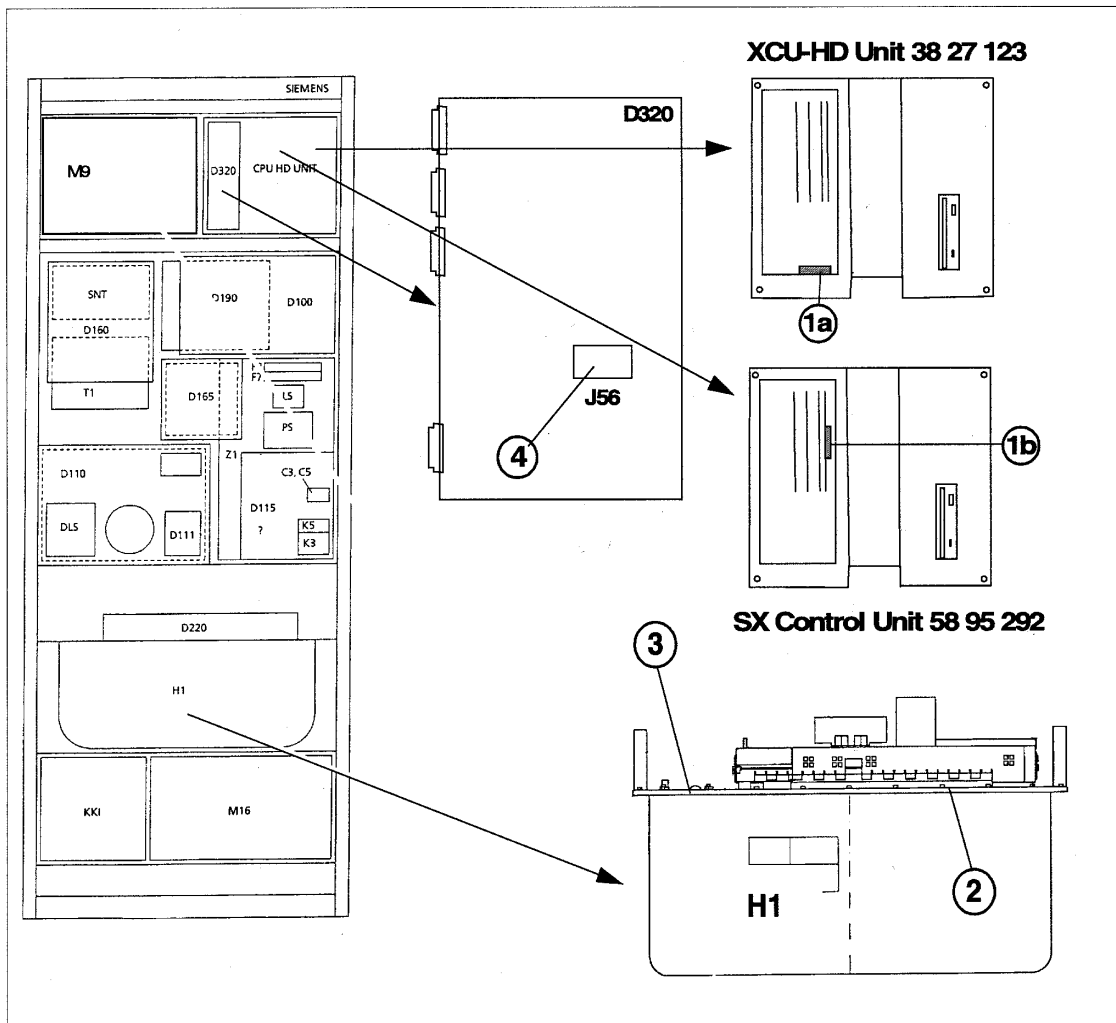

Fig. 1
- Remove the **lithium battery** from the CPU-HD unit (1a/Fig. 1).
- Remove the **lithium battery** from the slot CPU (1b/Fig. 1).
- Remove the S-RAM J56 with the **lithium battery** from PC board D320 (4/Fig. 1).
- Unscrew the cap screws from the high-voltage generator (2/Fig. 1).
- Lift the cover (3/Fig. 1) with the attachments off the trough of the high-voltage generator and pour the **oil** (approx. 25 l) into a suitable container.